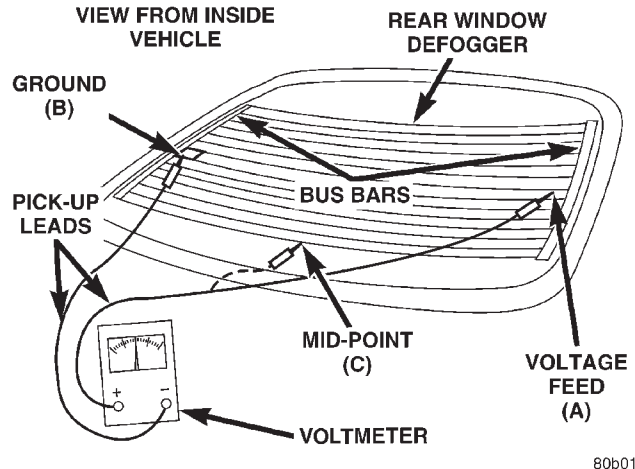

Fig. 3 Grid Line Test
- (1) Turn ignition switch to the ON position.
- (2) Make sure defogger switch is OFF.
- (3) Remove the battery negative remote cable from the terminal. Using a ammeter (capable of a 30 AMP range), connect the ammeter in series between the battery cable and the remote terminal. Turn the Defogger control switch ON, a distinct increase in amperage draw should be noted.
- (4) The rear window defogger operation can be checked by feeling the glass. A distinct difference in temperature between the grid lines and adjacent clear glass can be detected in 3 to 4 minutes of operation.
- (5) Using a DC voltmeter (Fig. 3) contact terminal B with the negative lead, and terminal A with the positive lead. The voltmeter should read 10-14 volts.
- (6) Step 3, Step 4, and Step 5 above will confirm system operation. Indicator light illumination means that there is power available at the output of the relay only, and does not necessarily verify system operation.
- (7) If the indicator light is not on, then check fuse #6 in the junction block.
- (8) If turning the switch ON produced no distinct current draw on the ammeter the problem should be isolated in the following manner:
- (9) When the above steps have been completed and the system is still inoperative, one or more of the following is defective:
The horizontal grid lines and vertical bus bar lines printed and fired on inside surface of rear window glass (Fig. 3) comprise an electrical parallel circuit. The electrically conductive lines are composed of a silver-ceramic material which when fired on glass becomes bonded to the glass and is highly resistant to abrasion. It is possible, however, that a break may occur in an individual grid line resulting in no current flow through the line. To detect breaks in grid lines the following procedure is required:
- (1) Turn ignition switch to the ON position. Depress the control switch button to ON position. The indicator light should come on.
- (2) Using a DC voltmeter with 0-15 volt range, contact the ground terminal with negative lead of voltmeter. With positive lead of voltmeter, contact feed terminal (Fig. 3). The voltmeter should read 10-14 volts. A lower voltage reading indicates a poor ground connection.
- (3) Connect the negative lead of voltmeter to a good body ground point. The voltage reading should not be more than two tenth of a volt difference. If more than two tenth of a volt repair the ground circuit.
- (4) Connect negative lead of voltmeter to ground terminal and touch each grid line at Mid-Point with Positive lead. A reading of approximately 6 volts indicates a line is good. A reading of 0 volts indicates a break in line between Mid-Point and feed terminal. A reading of 10-14 volts indicates a break between Mid-Point and ground terminal. Move toward break and voltage will change as soon as break is crossed (Fig. 3). Refer to Group 8W, Wiring Diagrams for circuit information.